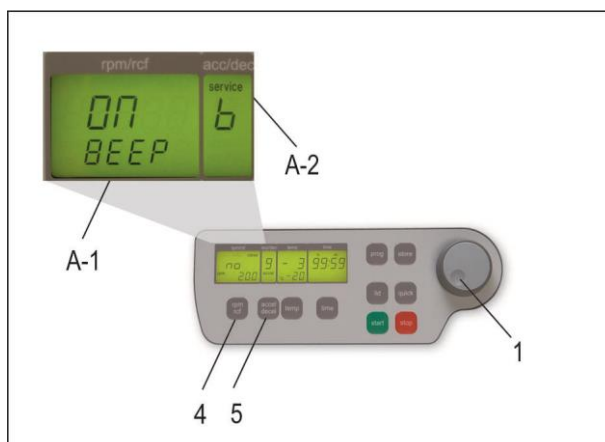

Figure 10
Proceed as illustrated under point 1.8.1 to enter this program mode, press the key "accel/decel" (5). In the display "accel/decel" (A-2) flashes the word "service". Select the letter "b" with the adjustable knob (1). As a result appearing in the display "rpm/rcf" (A-1) the word "ON/BEEP". By pressing the key "rpm/rcf" (4) the keyboard sound (On) or (Off) can be turned on with the adjustable knob (1) (see Figure 10).